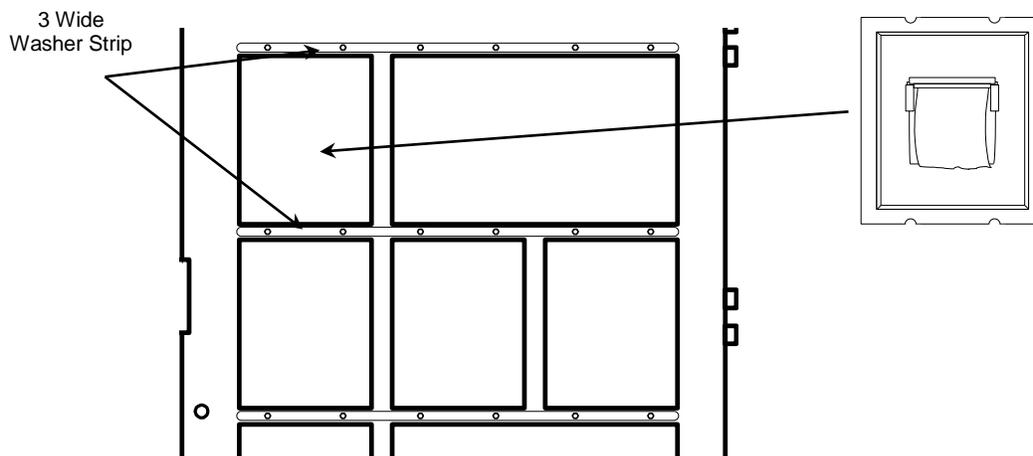
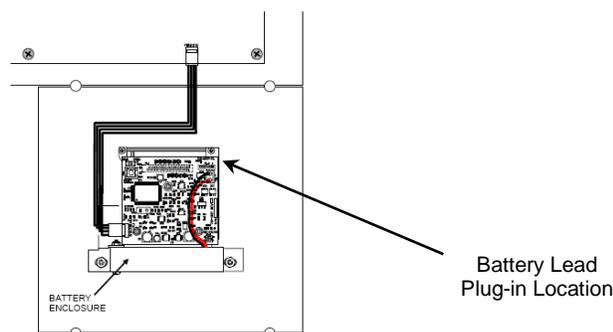

Figure 47 - NX-EM-012 Panel Strip Printer
Figure 48 - NX-EM-012 Panel Strip Printer Wiring
To install the NX-EM-012 panel strip printer, remove the nuts and washers holding the upper and lower washer strips (3-wide washer strip) to the inner door. Remove the washer strips and if installed the blank plate and install the NX-EM-012 between the aperture screws. Replace the removed washer strips and secure with the removed nuts and washers (see figure 47).
Connect the 4-way ribbon cable from the NX-EM-012 panel strip printer to the 4-pin plug on the rear of the NX-ACS-DSP alphanumeric graphic display. In addition, plug the battery lead cable from the rechargeable battery into the NX-EM-012 printed circuit board plug (see figure 48).
**Note:** The NX-EM-012 panel strip printer is supplied with the batteries disconnected, prior to proper operation connect the leads from the battery to the NX-EM-012 printed circuit board plug (see figure 48). The integral rechargeable battery is dedicated to the printer power supply, if the NX-ACS-DSP connection has been removed for a long period of time (i.e. more than a month) the NX-EM-012 battery will need to be recharged before the printer will function correctly. If charging is required, allow at least 1 hour before performing a test print and 24 hours before normal printing.
Remove power (AC and DC) from the system. Remove the 4-way ribbon cable from the NX-EM-012 panel strip printer to the 4-pin plug on the rear of the NX-ACS-DSP and remove the printer battery leads connected to the NX-EM-012 printed circuit board (see figure 48). Remove the nuts and washers holding the upper and lower washer strips (3-wide washer strip) to the inner door and remove the washer strips (see figure 47). Remove the NX-EM-012 panel strip printer and replace with the new NX-EM-012 panel strip printer between the aperture screws. Replace the removed washer strips and secure with the removed nuts and washers. Replace the 4-way ribbon cable and the printer battery leads which are disconnected during NX-EM-012 shipment (see figure 48). Reconnect removed AC and DC power.